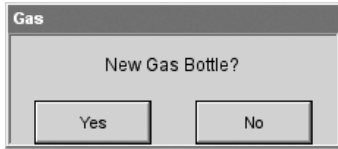

Fig. 7-25 New Gas Bottle
7. When this display appears (Fig. 7-25), press to install a new gas bottle.